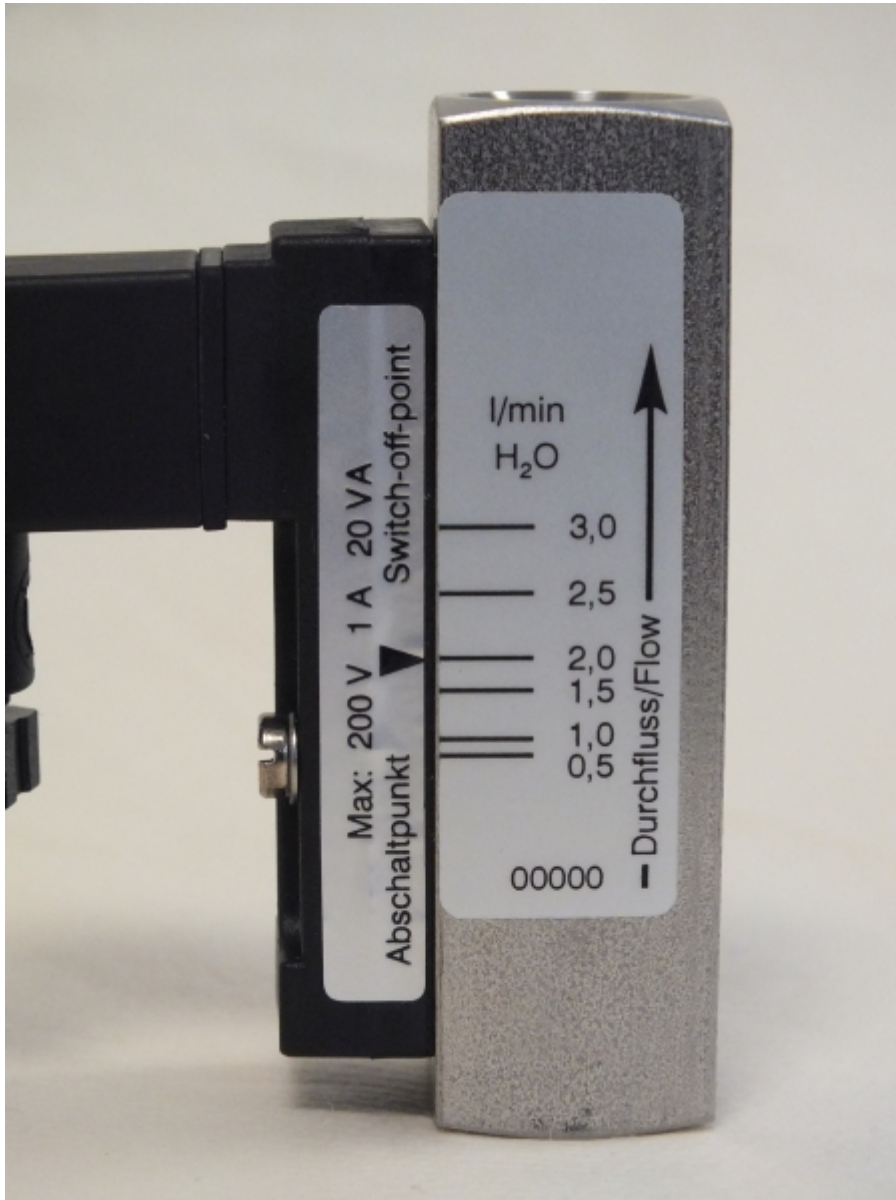

Fig. 34: Reading-off the flow value (example scale)
1. ➤ Make sure that the setting arrow and the scale mark of the scale on the device body are in alignment. (Fig. 34).